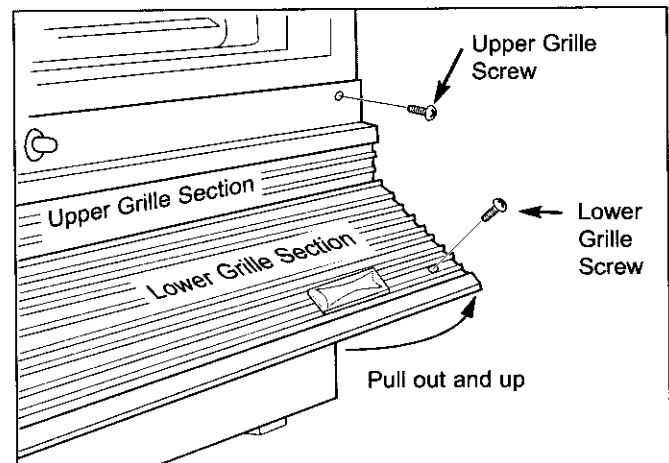

Figure 7-1. Louvered Grille
**Lower Grill Section Removal** - To remove lower grille section (See Figure 7-1):
**Upper Grill Section Removal** - To remove upper grille section (See Figure 7-1):